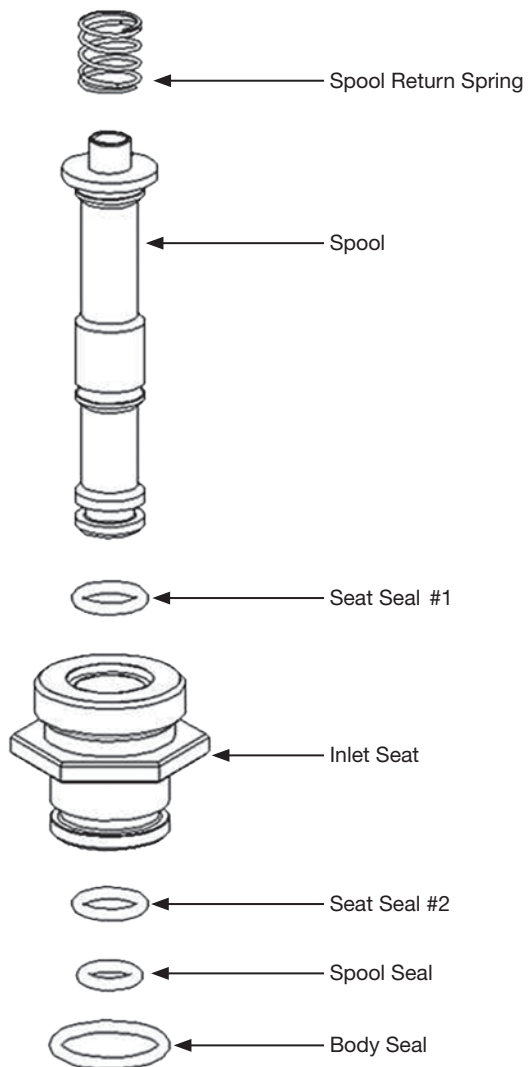

Figure 7.3a
1. Lay out the parts in sequence as shown in Figure 7.3a, on a clean and well-lit work area.